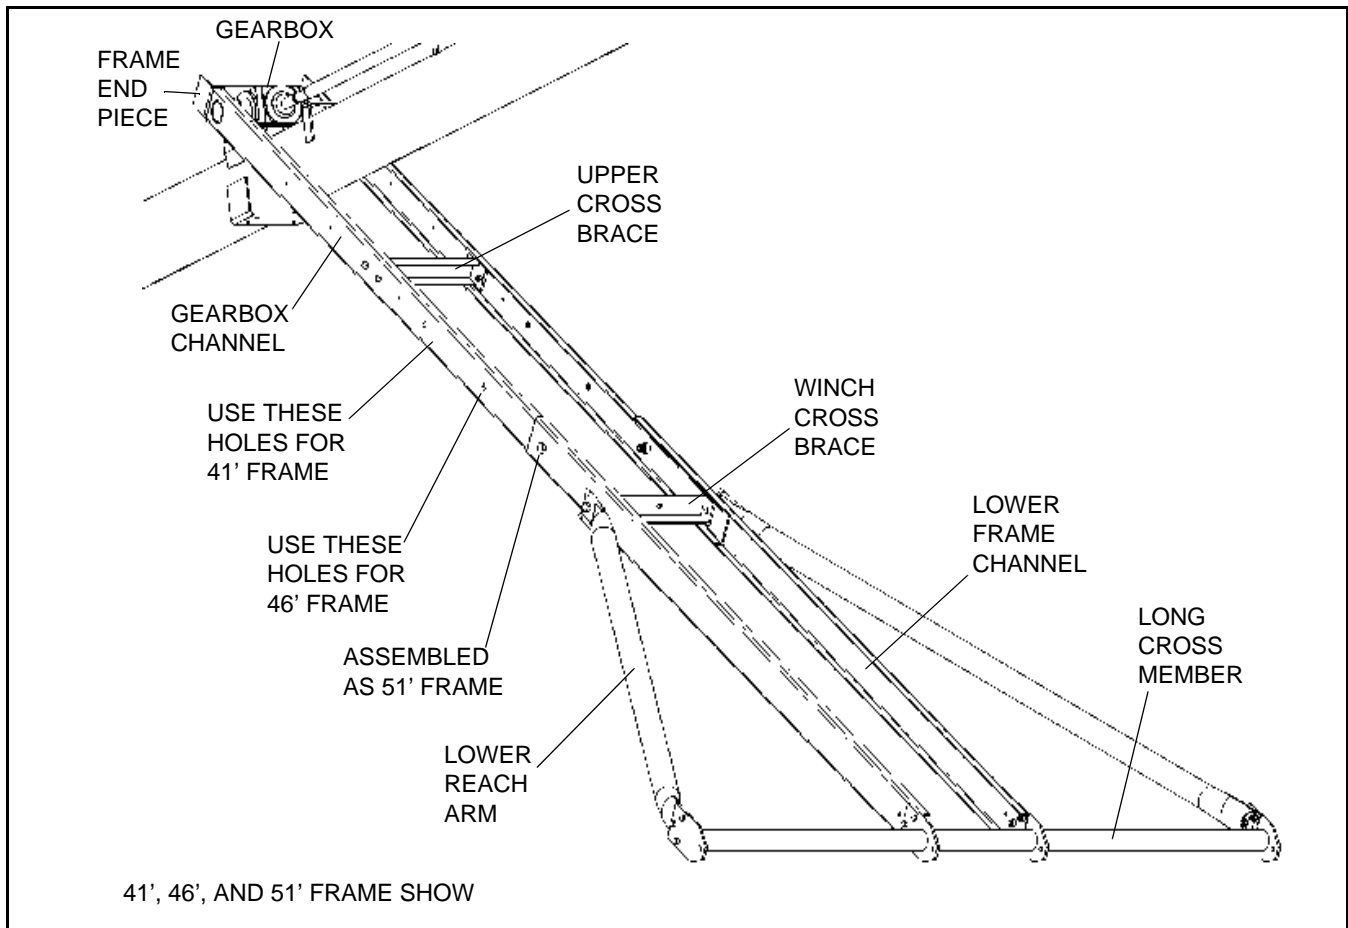

Figure 3.10 Lower Frame Assembly
2. Attach lower frame channel to gearbox channel using one $5/8$ x $1-1/2$ " bolt and locknut in upper hole, and one $5/8$ x 2" bolt and locknut in lower hole. Assemble frame channels according to size of auger (Figure 3.10, 3.11).
6. Install lower reach arms (one each side) and lower frame (winch) crossbrace (the one with holes) on frame (Figure 3.10). Tighten loose bolts from step 2. Let other end of reach arms rest on ground.